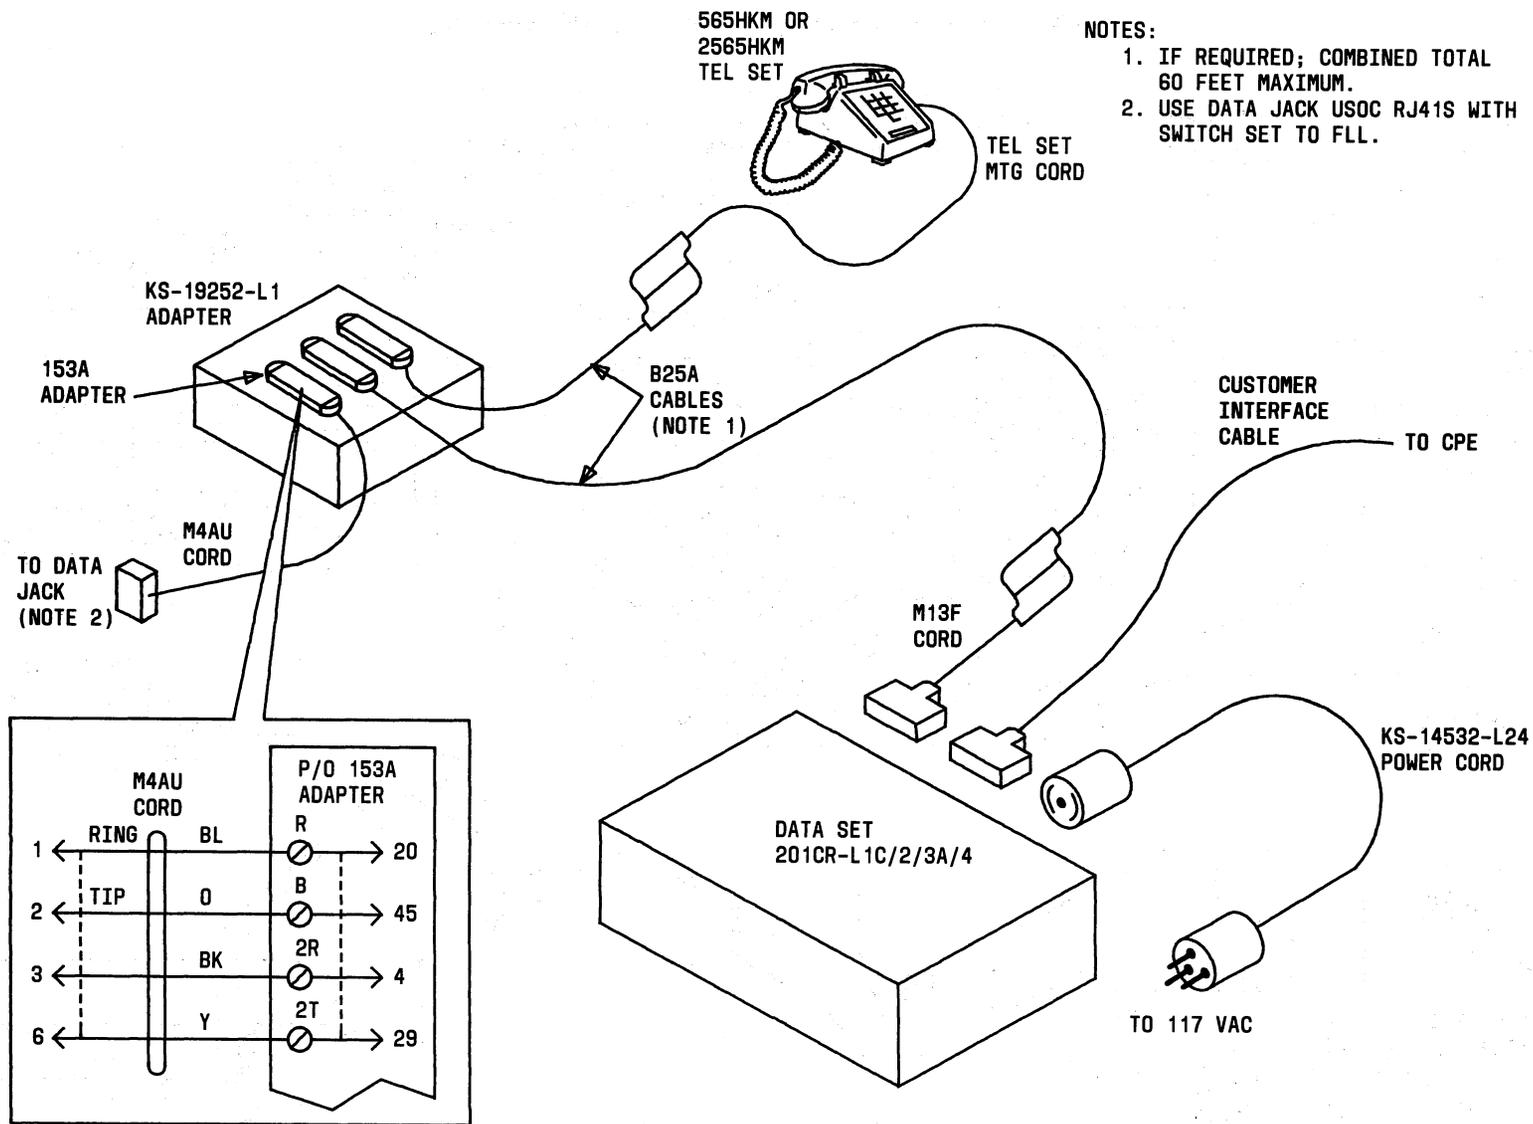

Fig. 6—Single Data Set With Telephone Set (Alternate Method)—Connection Diagram
4.04 Single Data Set With Telephone Set (Alternate Method): The connection diagram for this arrangement is Fig. 6.